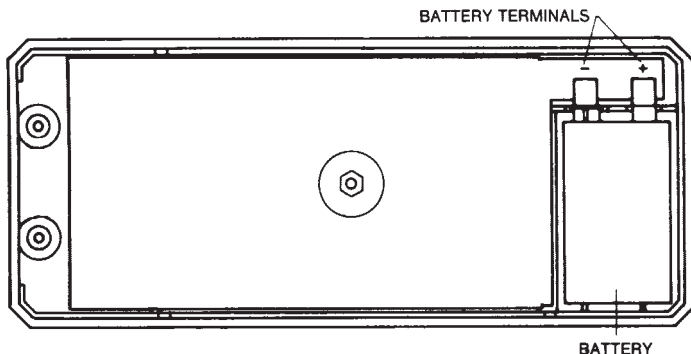

Figure 2 Battery Installation
4. Place the new battery in the battery compartment. Be sure to observe the proper polarity (refer to Figure 2).